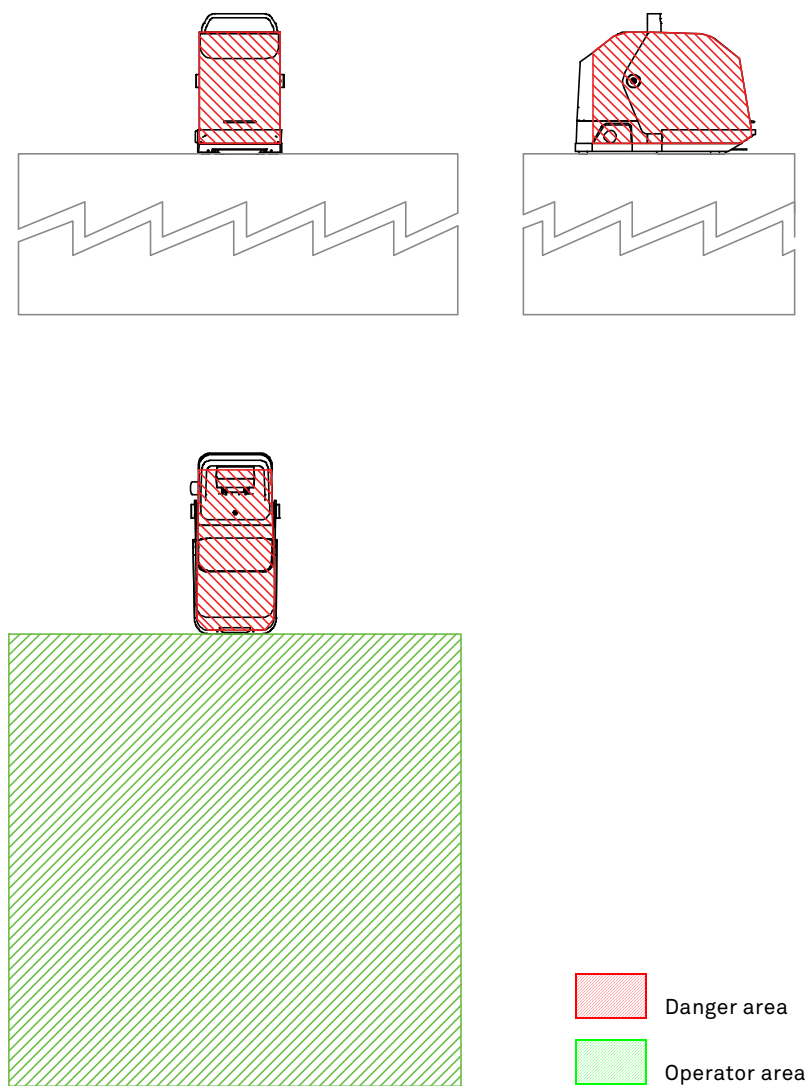

Figure 4 - Operator area and danger areas
- Stands at the intended workstation, highlighted in green in Figure 4;
In normal operating conditions, access to the machine dangerous zones, highlighted in red in Figure 4, is prevented by fixed guards and by the front (interlocked) mobile cover.